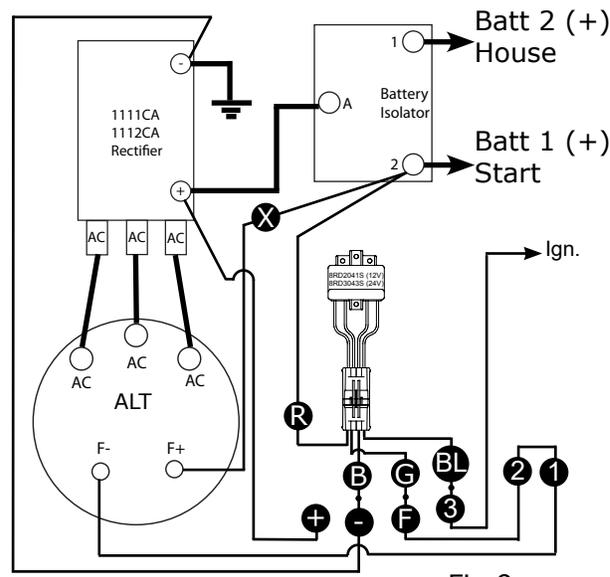

Fig 9
- 4) Move wire **X** originally connecting alternator F+ and rectifier + terminals to the battery isolator start battery post. Fig 9
- 6) Wiring, please refer to steps below. Fig 9